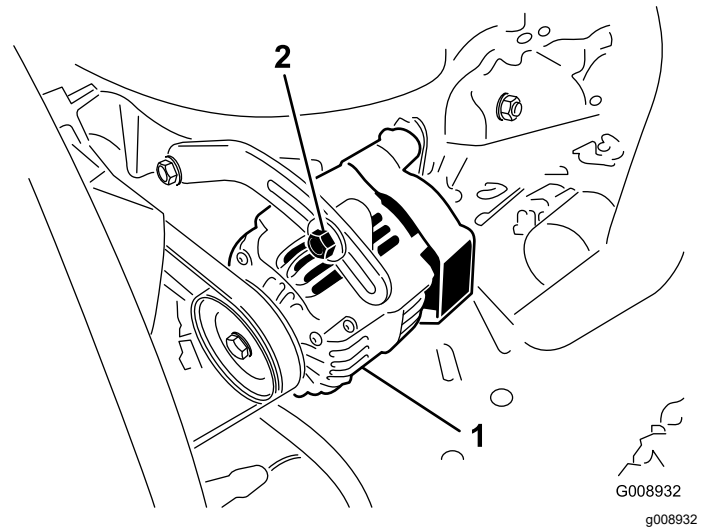

Figure 80
2. If the deflection is not 10 mm (3/8 inch), loosen the alternator mounting bolts (Figure 80).